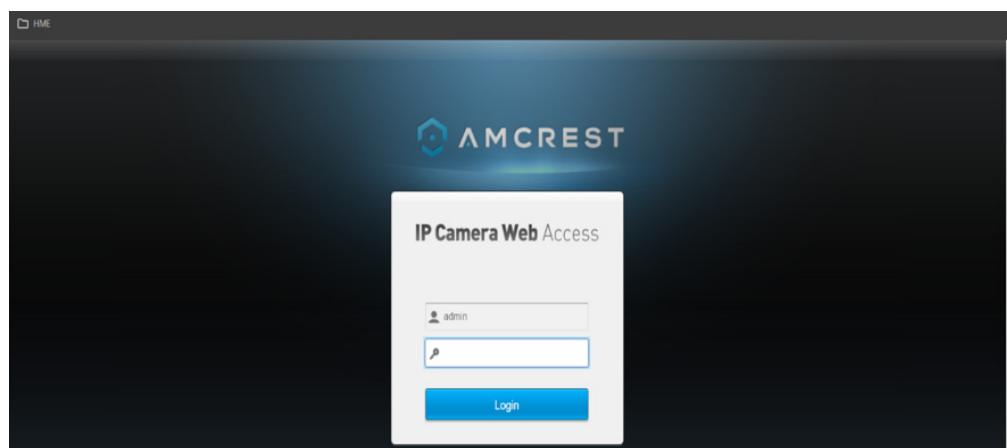

Fig. 2.2
- Log in to the Camera portal using these credentials: For Username and Password, enter the word "admin" into both fields. Then click/tap the Login button. See Fig. 2.2.